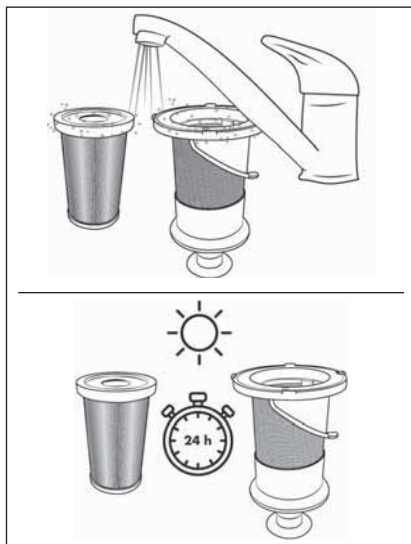

Fig. 25
- 5) Rinse the EPA filter **5** and the stainless steel filter **6** under cold or lukewarm water. Allow the EPA filter **5** and stainless steel filter **6** to air dry completely before putting them back into the dirt container **7** (see Fig. 25).